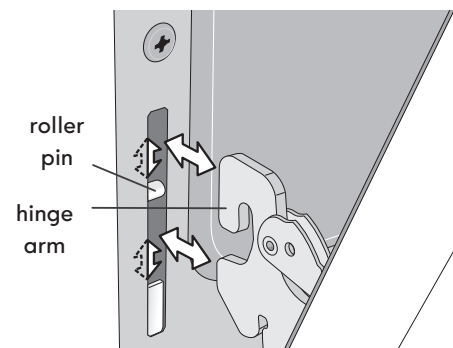

Figure 26: Hinge pin locations
5. With the oven door in the broil stop position, lift the oven door hinge arms over the roller pins located on each side of the oven frame (Figure 26).
2. Holding the oven door at the same angle as the removal position, seat the hook of the hinge arm over the roller pins located on each side of the oven door frame (Figure 26). The hook of the hinge arms must be fully seated onto the roller pins.